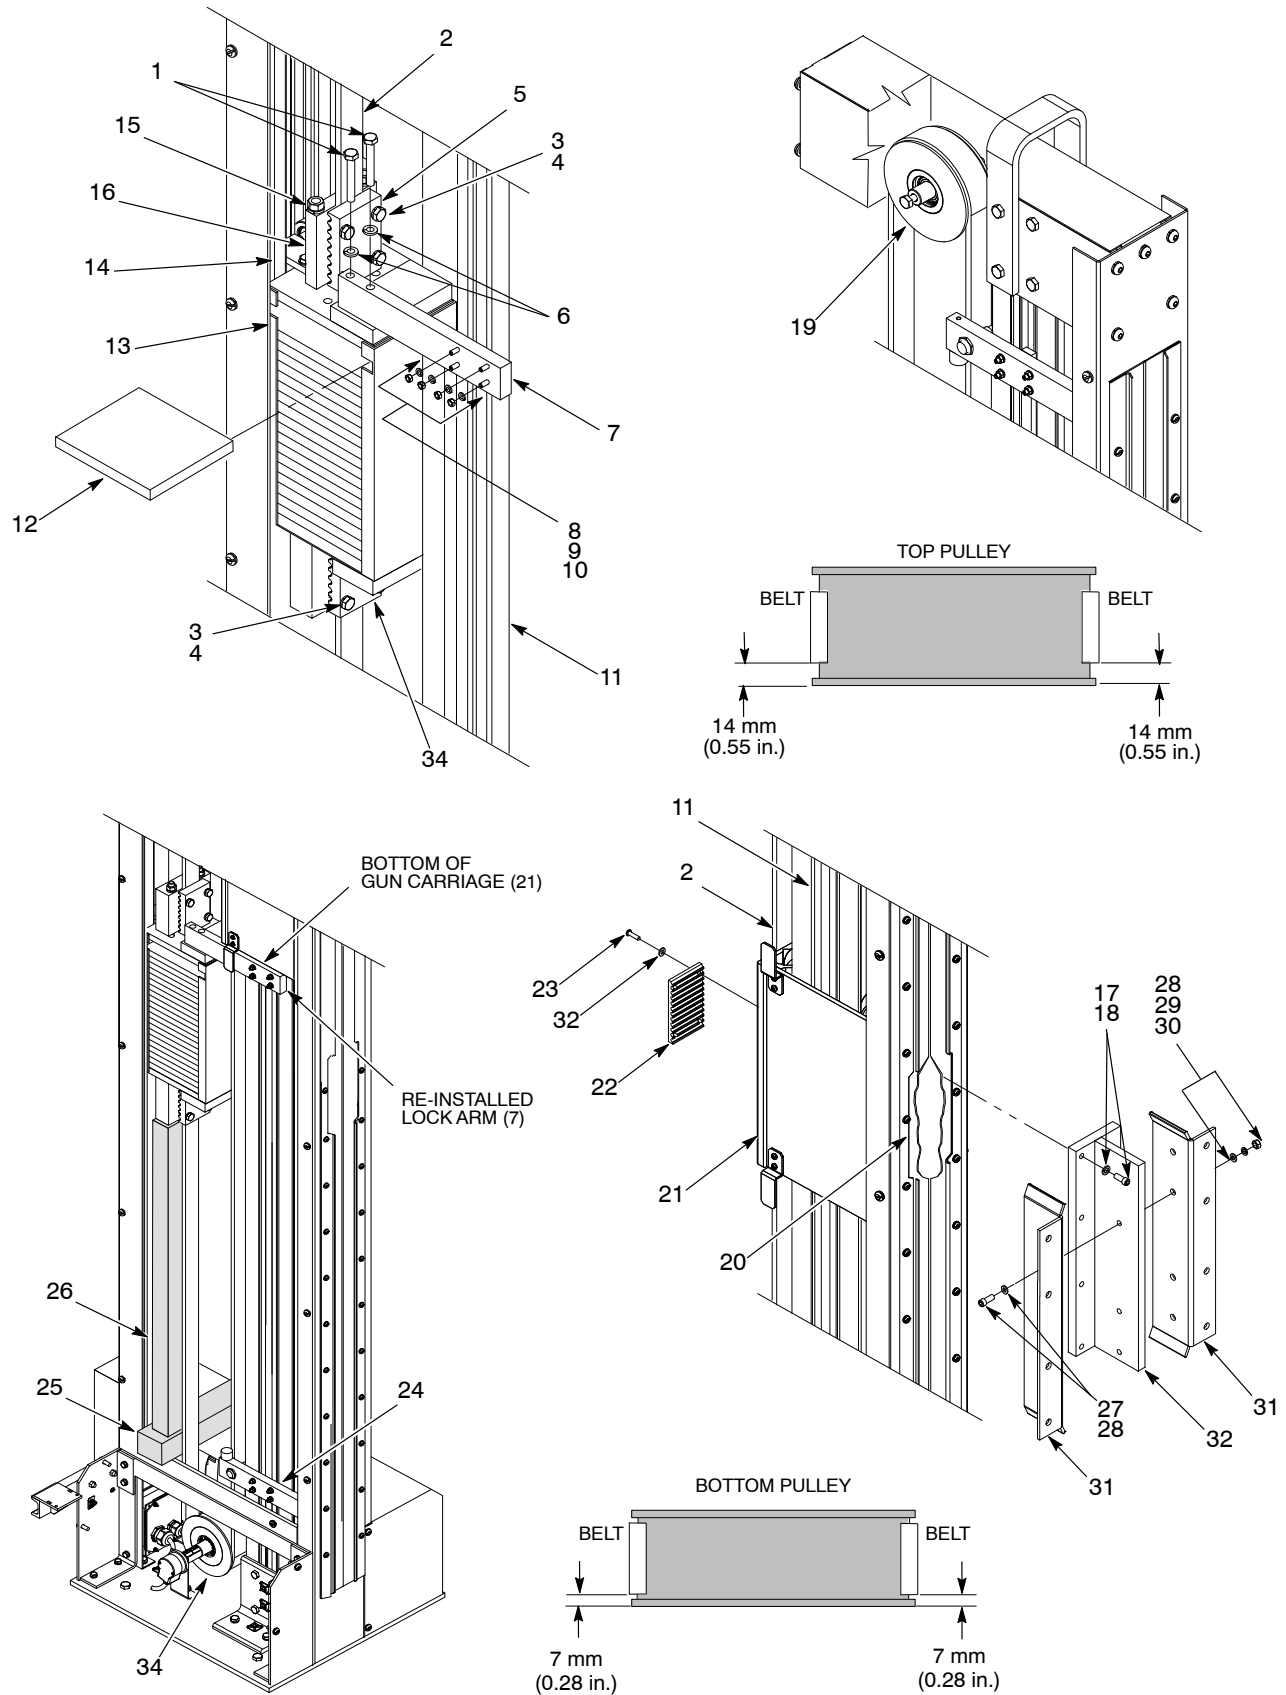

Figure 18 Installing the Gun Carriage Mount
1. See Figure 18. Install the belt: